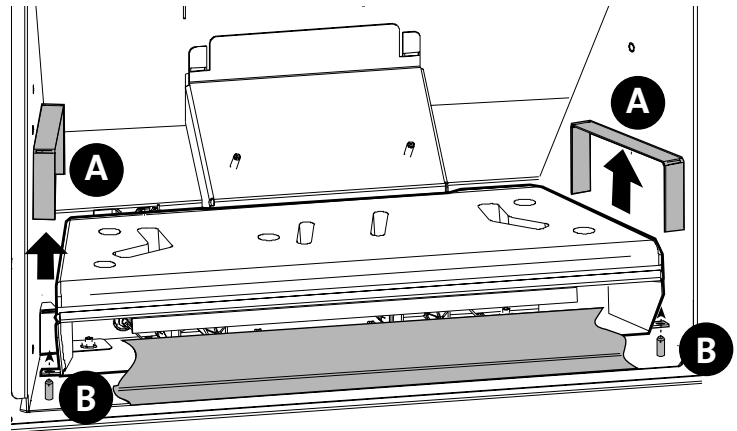

Figure 4. Burner removal and re-installation.
- Lift out the two steel support shelves, fig. 4, (A), located at each side of the burner. Grasp the burner assembly at the sides, lifting it straight up, then tilt it back to disengage it from the injectors and front locator studs (B). Pull the assembly up out of the firebox.
10. **REINSTALL THE BURNER ASSEMBLY.** Tilt the back of the burner down to engage the air shutters with the injectors. Set the burner in place, engaging the front brackets with the studs in the firebox floor, fig. 4, (B).
Replace the steel side support shelves, fig. 4, (A).